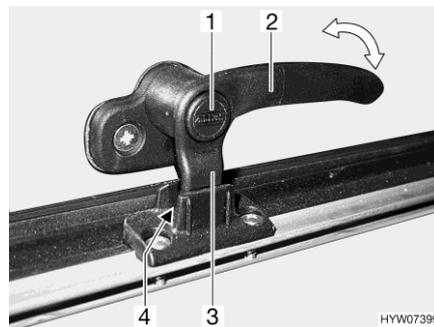
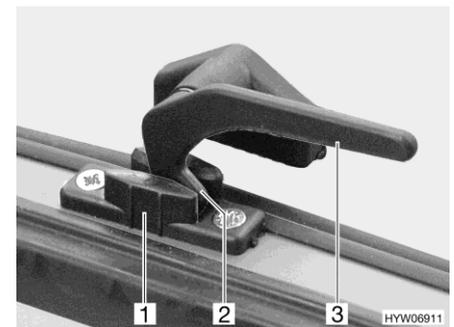

Fig. 93 Catch lever with safety knob in "continuous ventilation" position
Fig. 94 Catch lever in "continuous ventilation" position
- "Continuous ventilation" (Fig. 93 and Fig. 94)
- Press and hold the security button (Fig. 93,1), if present.
- Turn the catch lever (Fig. 93,2 or Fig. 94,3) a quarter turn towards the centre of the window.
- Return the catch lever to its initial position. Move the locking catch (Fig. 93,3 or Fig. 94,2) on the catch lever into the recess of the window catch (Fig. 93,4 or Fig. 94,1).